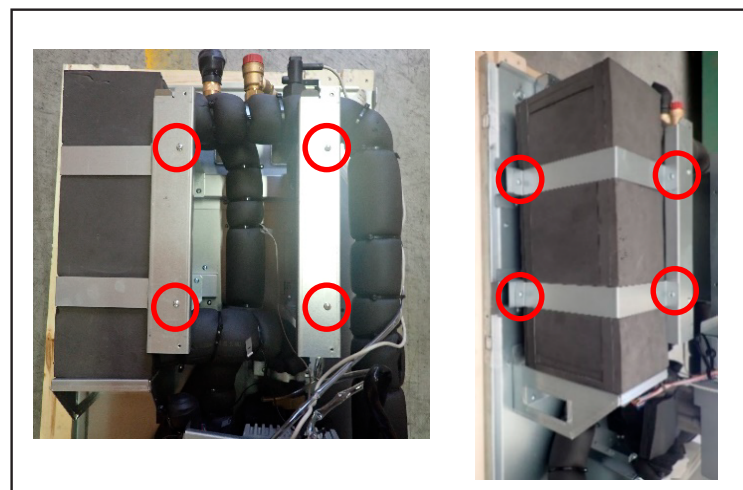
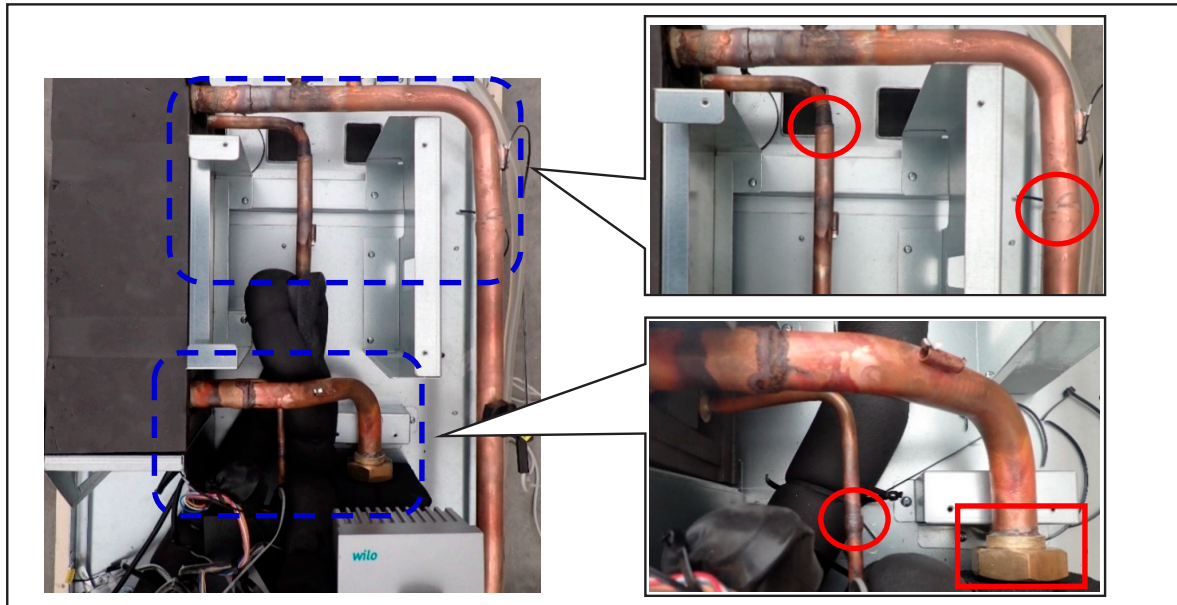

Fig20-1. Removing plate heat exchanger
Fig20-2. Removing plate heat exchanger
- ① Braze 3 places. Tighten the nut. (○ mark, □ mark Fig.20-2)
- ② Attach parts as before.
- ① Remove 8 screws. Remove 4 brackets.(○ mark, Fig.20-1)
- ② Remove the insulation.
- ③ Remove the brazing in 3 places. Loosen the nut.(○ mark,□ mark Fig.20-2)